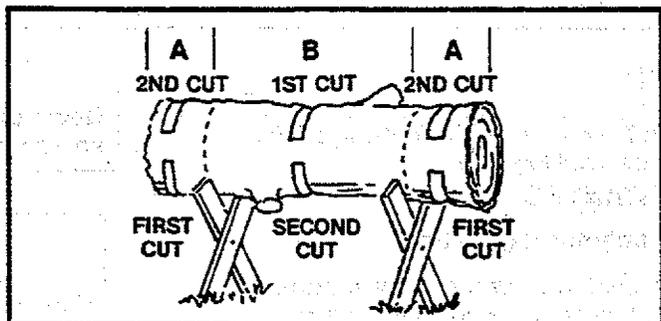

Figure 33
- ## 5. BUCKING — USING A STAND (Figure 33):